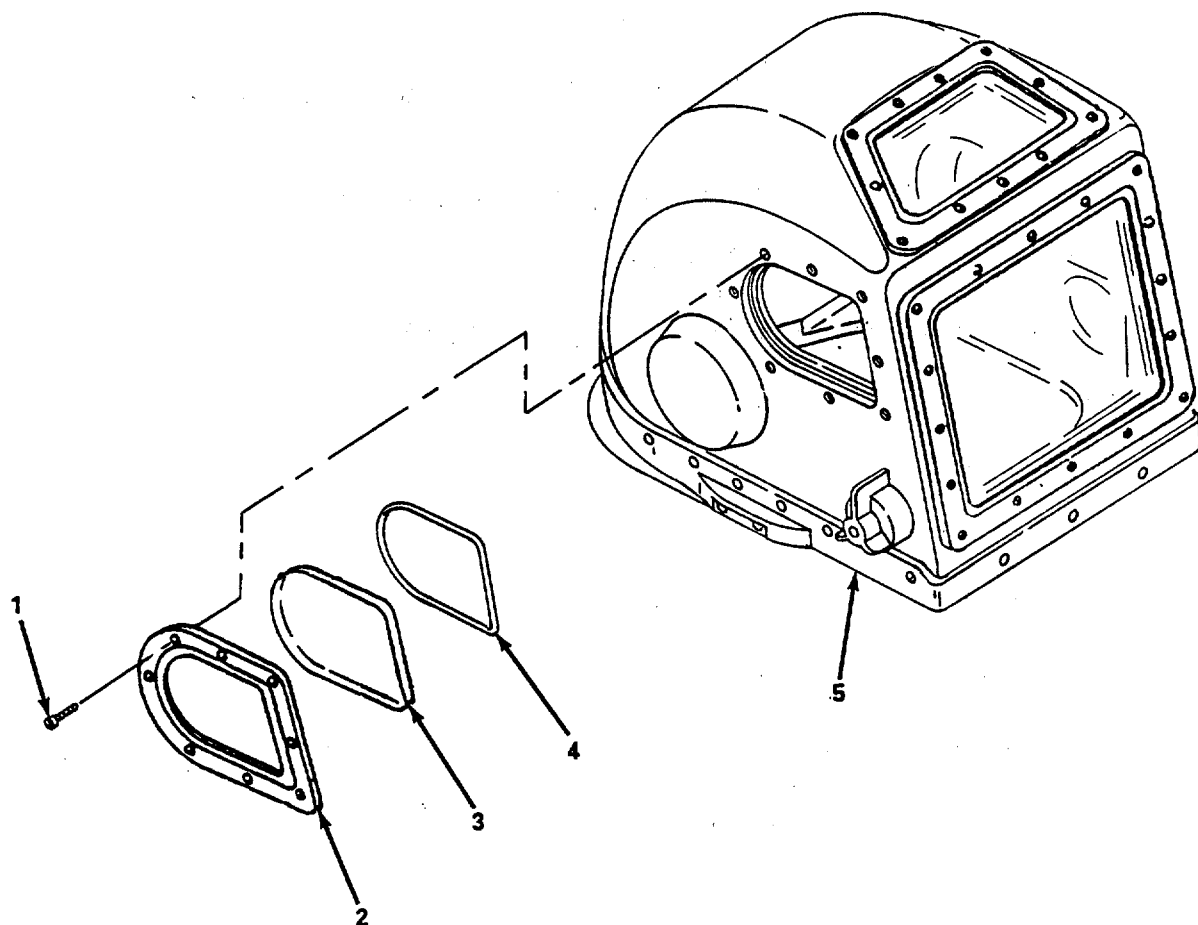

Figure 5-6. Side Viewport, Replace.
- b. Replace (Side). (figure 5-6)